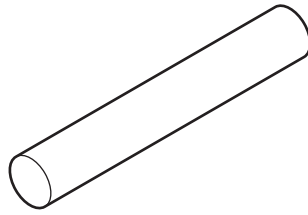

Fig. 11.4
- (d) (i) Fig. 11.4 shows a length of Ø25 non-ferrous metal rod from which the weights will be cut.